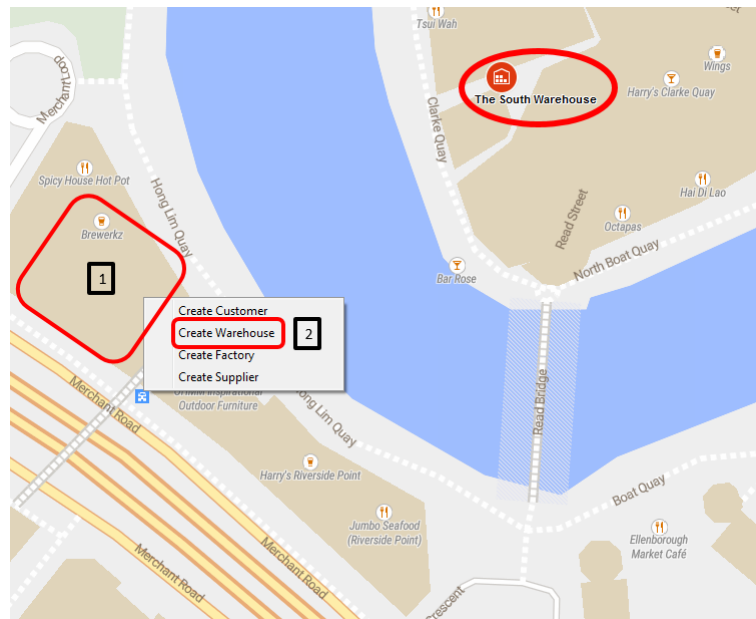

Figure 51: Creating an Optional Warehouse at Riverside Point
- ✓ Figure 51 shows how to create an optional warehouse at Riverside Point.
- ✓ Repeat the steps from Figure 51 onwards for creating optional warehouses at Bras Basah Complex, Suntec City and Marina Bay Sands.
- ✓ Repeat the steps from Figure 51 onwards to create optional warehouses at Lot One and Ten Mile Junction.